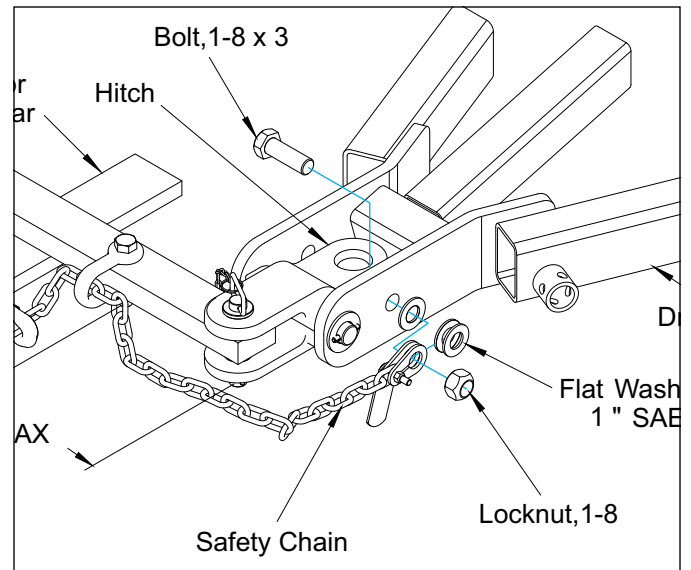

Figure 3-7: CAT2 Straight Drawbar
- Attach the safety chain to the tractor drawbar. **See Figures 3-7 and 3-8.** Provide only enough slack in the chain for turning. Do not use an intermediate chain support as the attaching point for the chain on the tractor. Do not pull the implement by the safety chain.